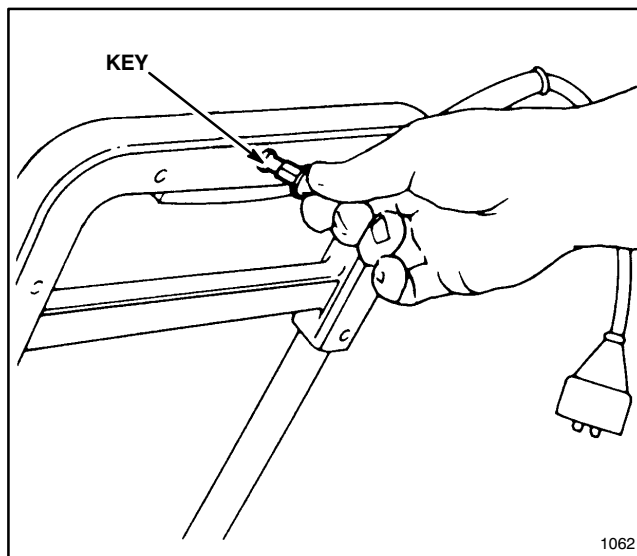

Figure 5
2. Plug the extension cord into a wall outlet. Insert key into hole at rear of handle (Fig. 5).